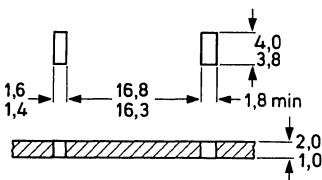

Fig. 3 Heatsink requirements.
2. Push the short end of the clip into the narrow slot in the heatsink with the clip at an angle of  $10^\circ$  to  $30^\circ$  to the vertical (see Figs 3 and 4).